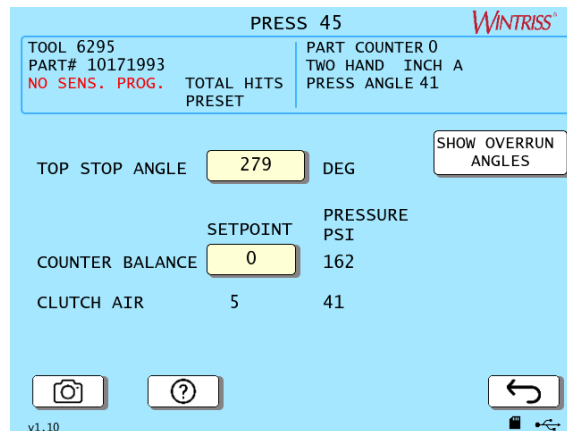

Figure 5-7. Press Control Screen
The Press Control Screen enables you to adjust the top-stop angle, maximum and minimum press speed limits, and counterbalance setpoint established for the selected tool in Program mode, *PRESS CONTROL (Program Mode)*, page 216. (The Counterbalance Setpoint field does not display if the Counterbalance Tolerance has been set to zero (0) in Initialization mode.) Make these adjustments on the press control screen, Figure 5-7.
1. Press PRESS CONTROL on the Main Run menu, Figure 5-1, page 221. The press control screen displays, Figure 5-7, above.